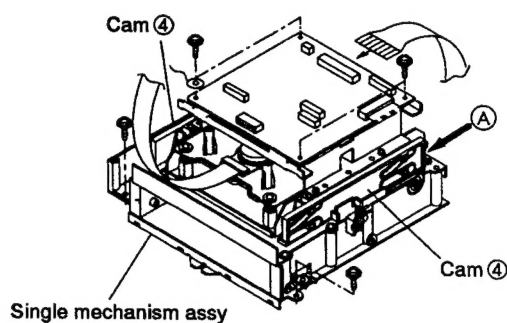

Fig. 3
2. With both hands, push on the cams ④ (one each on the right and left) of the single mechanism assy, at the position indicated by arrow A in Fig. 3 (the position is the same with the other cam), fully towards the front panel.